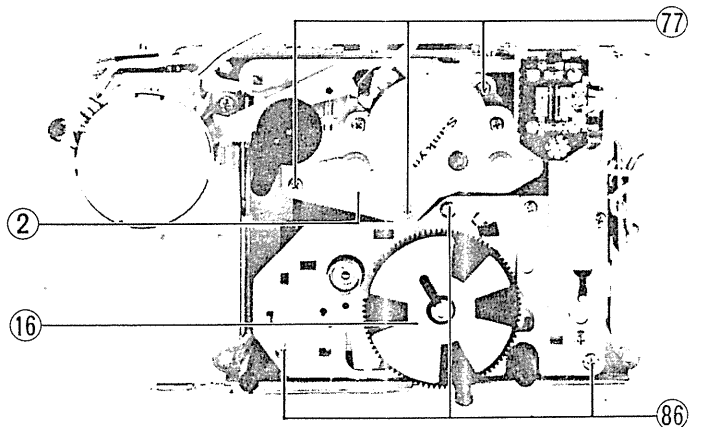

Fig. 14
K. Reel disk ass'y (2) (Fig. 14)
2. Remove 3 screws (77).
L. Drive gear ass'y (16) (Fig. 14)
2. Remove 3 screws (86).